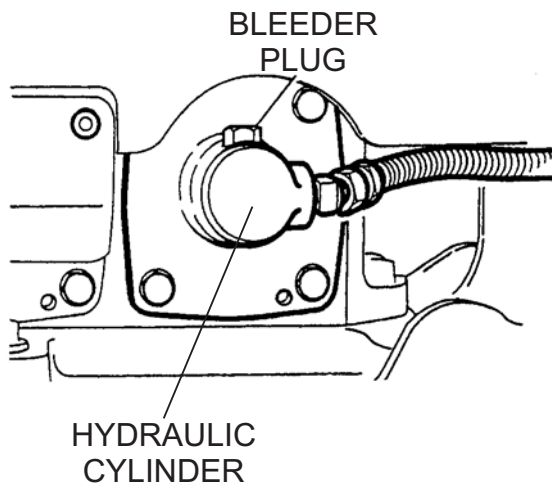

Figure 33. Bleeder Plug
3. Loosen bleeder plug located at top of hydraulic cylinder on side of vibrator (Figure 33). Air remaining in the circuit will be forced out of the bleeder plug. Once all air has been purged from the hydraulic system, tighten bleeder plug securely